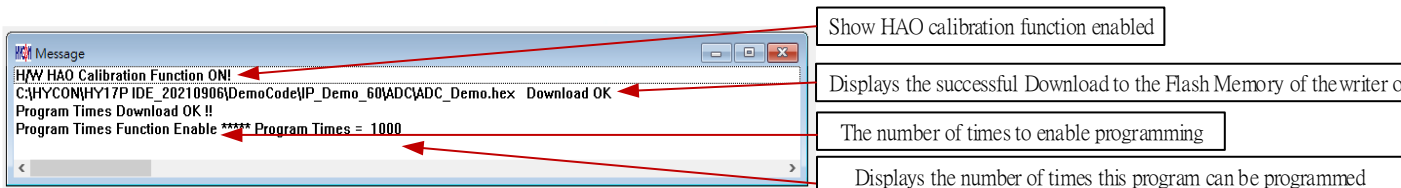

Figure 50
2. If there is enabled program times in the assembly option, information column will display the programming times as shown in Figure 50.